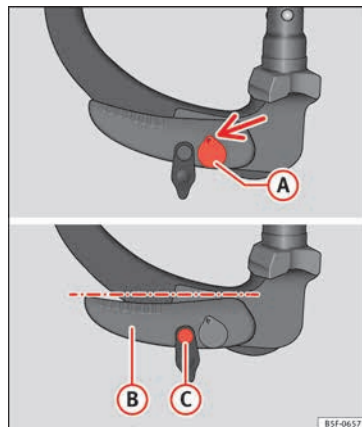

Fig. 221 Standby position: Position of the lever and the release bolt
- Key (A) » Fig. 221 is in the released position (the part of the key with the holes is facing upwards).
- Lever (B) » Fig. 221 is in the bottom position.
- The release bolt (C) » Fig. 221 can be moved.